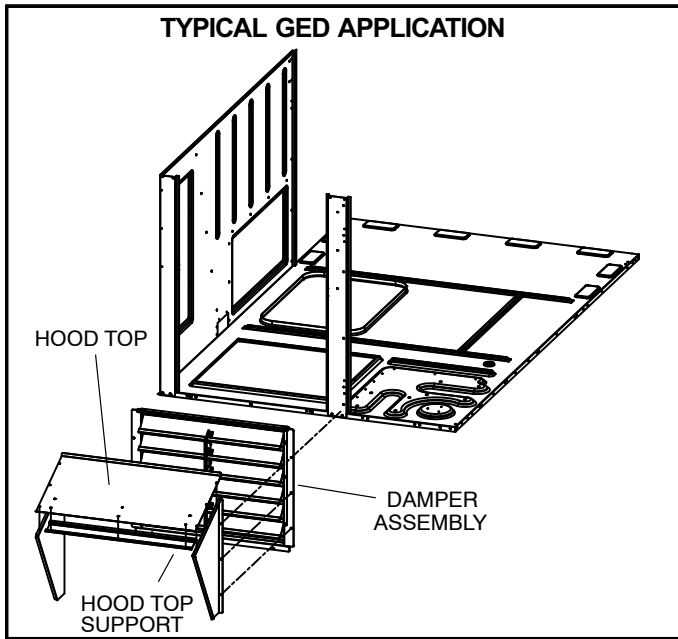

FIGURE 9
- 1- Attach hood top to hood top support at the top of the damper assembly. See figure 9.
- 2- Remove screws from sides of economizer assembly (if installed). Remove paper backing from foam gaskets on hood sides. Secure left and right hood sides to the damper assembly as shown in figure 9.